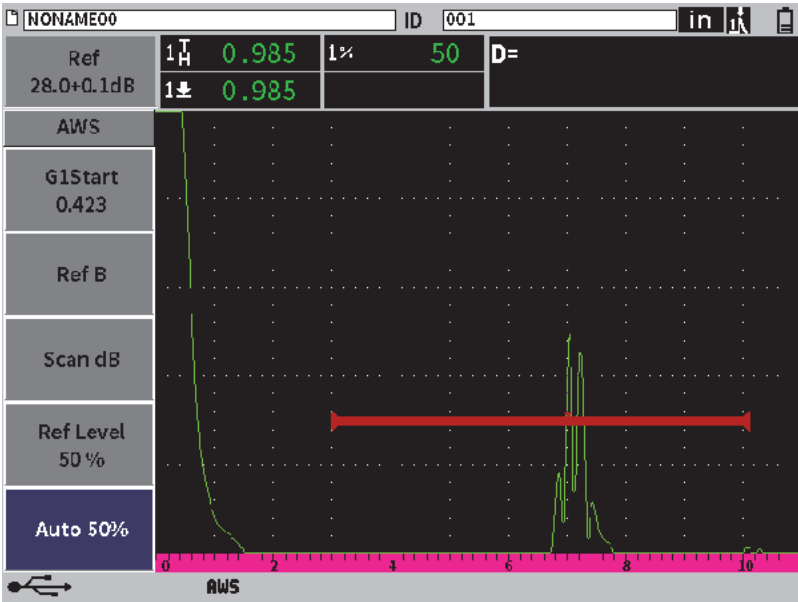

Figure 11-25 Active AWS with a Ref Level of 50 %
8. Press the Tab key to highlight **Auto XX%** (default value is 50 %), and then press the Enter key (see Figure 11-25 on page 203).